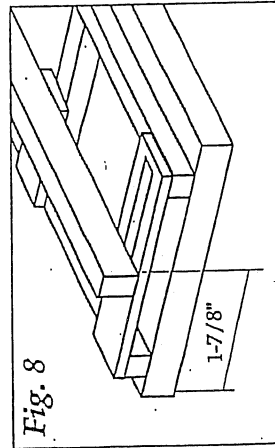

Fig. 8
7) Locate the  $1/4 \times 1/2 \times 24$ " clamping rails (part 5). There are two in the kit. You'll glue the inside edge of the rail to each of the cross members exactly  $1-7/8$ " from the outside edge of the baseboard...make sure you measure from the edge of the baseboard and not from the edge of the rail. The narrow side ( $1/4$ " of the rail should be glued down. Make sure it is straight and square (fig. 8).